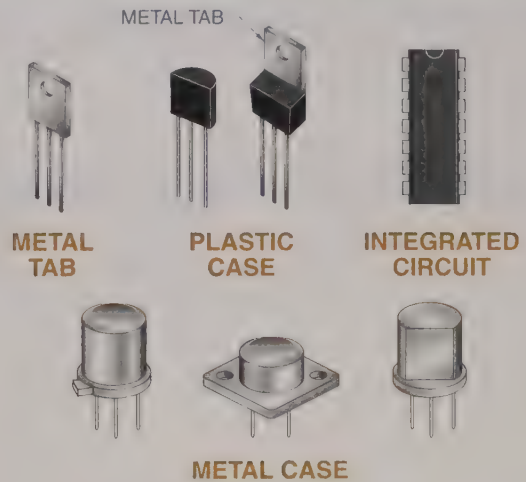

Figure 22-4. Transistors have either two or three leads extending from their case.
Transistors are manufactured with two or three leads extending from their case. See **Figure 22-4**. These packages are accepted industry-wide regardless of manufacturer. When a transistor with a specific shape must be used, a transistor outline (TO) number is used for reference.